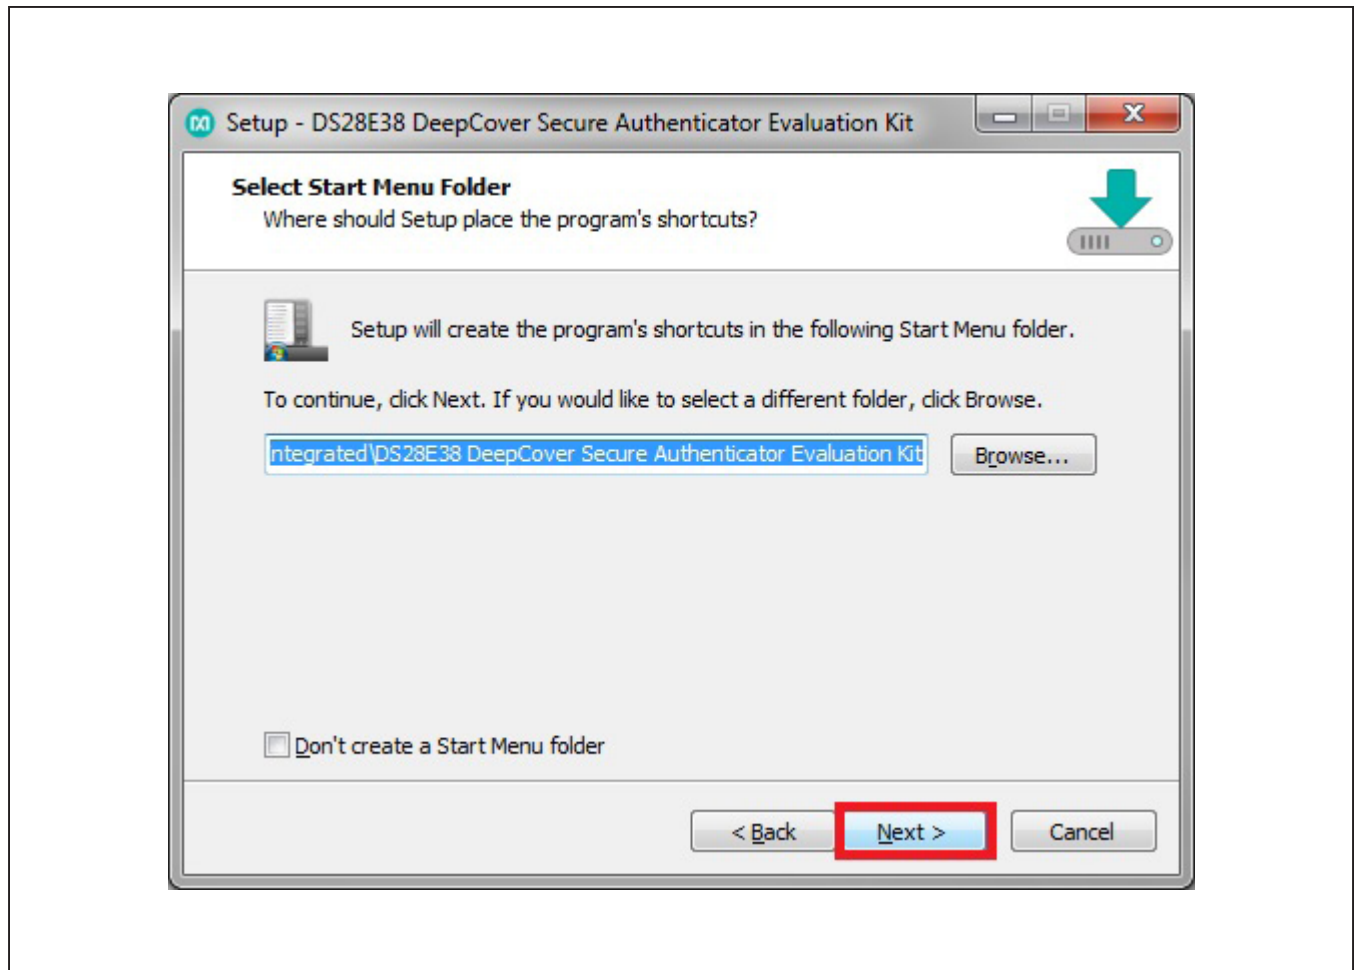

Figure 4. Program Shortcuts Location
5) Click **Next** to install shortcuts to the default folder (Figure 4).